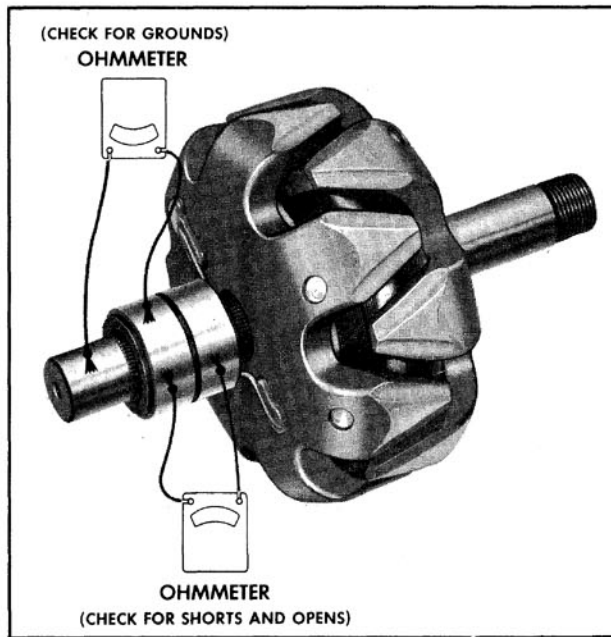

Fig. 13-36 Checking Rotor
- A. To check rotor for grounds, connect a 12-volt test lamp or a ohmmeter from either slip ring to the rotor shaft or poles. If the lamp lights or the ohmmeter reading is low, the field winding is grounded and the rotor must be replaced. (Fig. 13-36)
- B. To check rotor for opens, connect the test lamp or an ohmmeter lead to each slip ring. If the test lamp does not light or no reading can be obtained on the ohmmeter, the field winding is open and the rotor must be replaced. (Fig. 13-36)